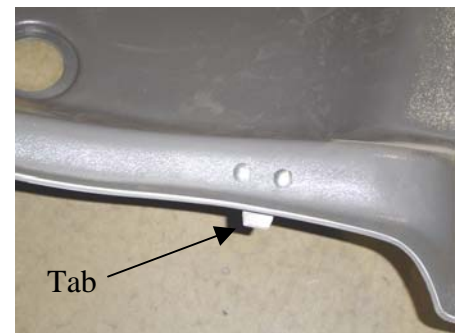

Fig. 8
- A. Before installing the Pro-gard seat, mount the seat locating tabs (3S5601) to the bottom of the ABS seat using the (3X03) screws and the 3X17 lock nuts (See **fig. 8**).